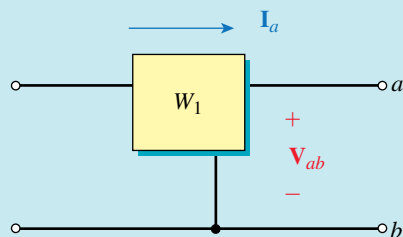

FIGURE 23-31 $P_1 = V_{ab} I_a \cos \theta_1$ where θ_1 is the angle between V_{ab} and I_a .
First consider wattmeter 1, Figure 23-31. Note that W_1 is connected to terminals a - b ; thus it has voltage V_{ab} across it and current I_a through it. Its reading is therefore $P_1 = V_{ab} I_a \cos \theta_1$, where θ_1 is the angle between V_{ab} and I_a . V_{ab} has an angle of 30° and I_a has an angle of 53.13° . Thus, $\theta_1 = 53.13^\circ - 30^\circ = 23.13^\circ$ and $P_1 = (208)(8) \cos 23.13^\circ = 1530 \text{ W}$.